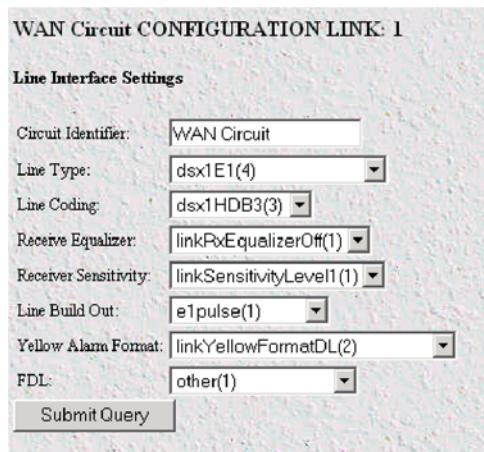

Figure 38. WAN Circuit Configuration page, Line Interface Settings
3. Click the *Configuration...* hyperlink then click the *Modify Configuration...* hyperlink to open the WAN Circuit CONFIGURATION LINK window (see figure 38) and view the *Line Interface Settings*.